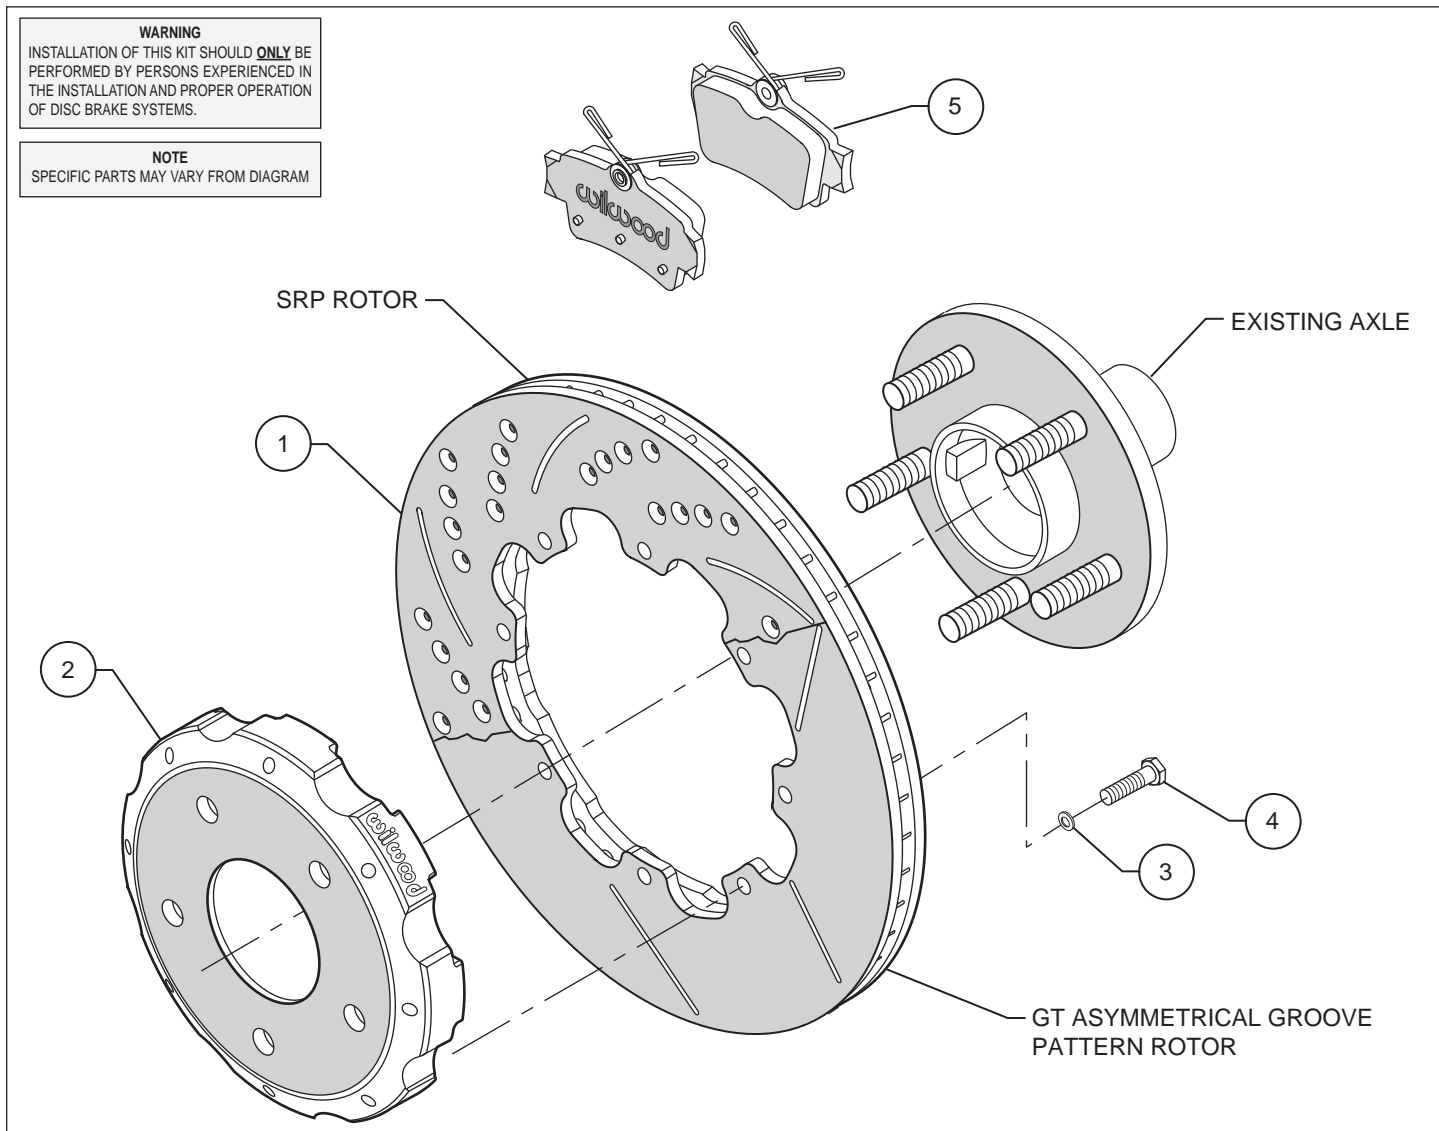
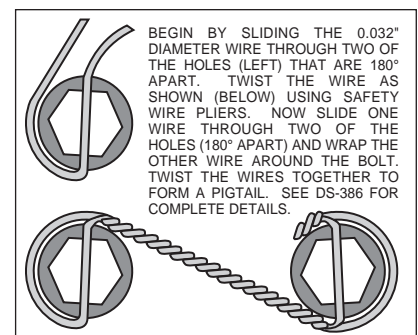

Figure 1. Typical Installation Configuration
Figure 2. Safety Wire Diagram
- Assemble the rotor (1) to the hat (2) with the bolts (4) and washers (3) as shown in Figure 1. Using an alternating sequence, remove bolts one at a time, apply red *Loctite*® 271 to the treads, and torque to 120-144 **in-lbs**. The rotor mounting bolts (4) must be lockwired using standard 0.032 inch diameter stainless steel safety wire as shown in Figure 2. Please refer to Wilwood's data sheet DS-386 (available at www.wilwood.com/Pdf/DataSheets/ds386.pdf) for complete safety wire installation instructions..
- Align the hole pattern on the hat (2) with the stud pattern on the axle flange. Slide the hat and rotor assembly over the wheel studs and against the axle flange face. Check to be sure the hat seats squarely against the axle flange face. The axle flange area must be free from any rust, debris, casting burrs, machining irregularities, etc. Use several lug nuts to hold the rotor and hat in place against the axle flange.
- Install new Wilwood brake pads (5) into the stock caliper.